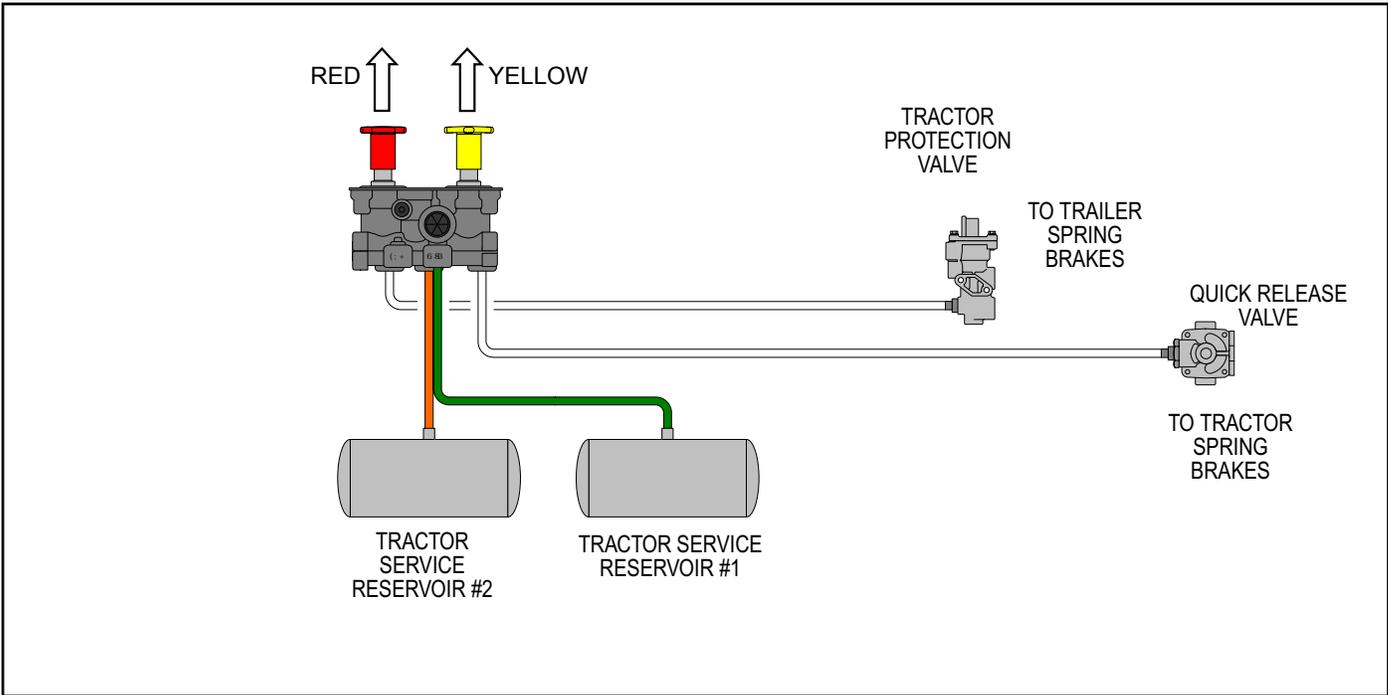
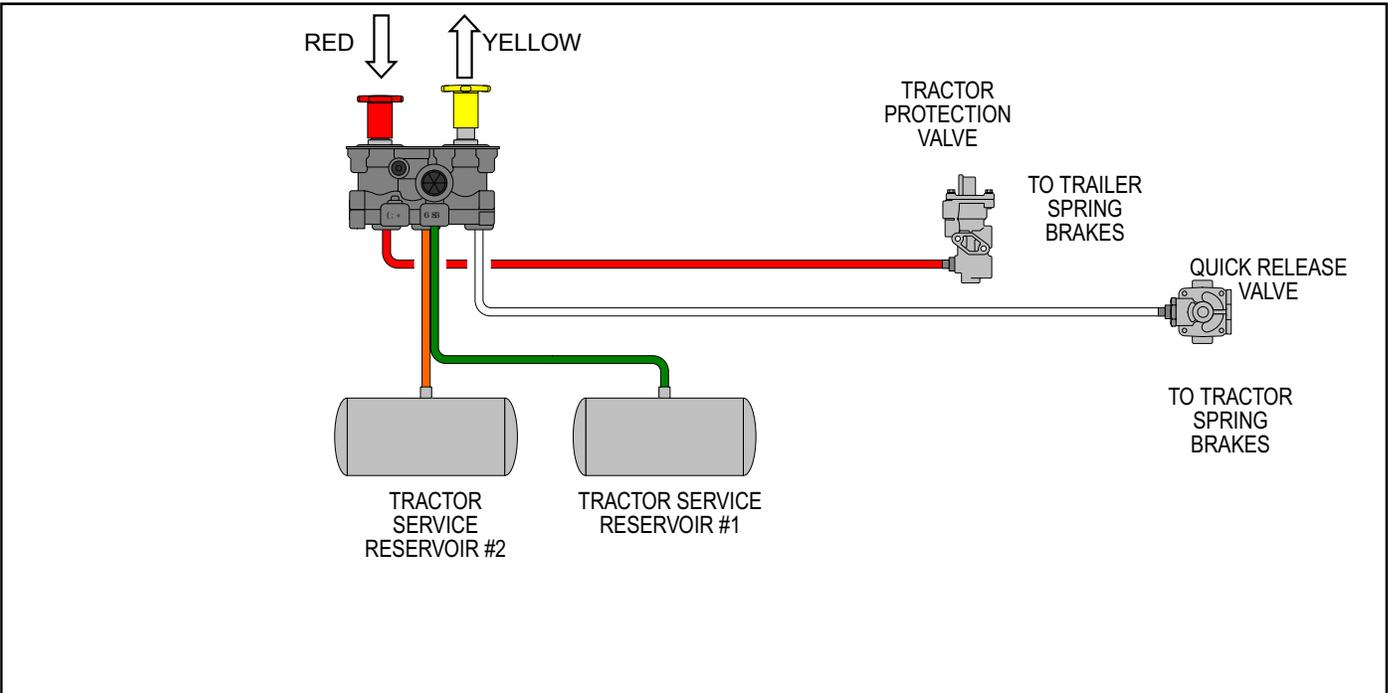

FIGURE 2 - INITIAL CHARGING OR SYSTEM PARK
FIGURE 3 - TRAILER CHARGED & TRACTOR PARKED
During initial charge, with the system completely discharged, both buttons are out (Figure 2). When system pressure reaches 65 psi, the red button (trailer supply) may be pushed in (Figure 3) and should stay in, charging the trailer system and releasing the trailer brakes. The yellow button may now be pushed in, which will supply air to the tractor spring brakes, releasing them.
**SYSTEM PARK (FIGURE 2)**
## TRAILER CHARGE (FIGURE 3)